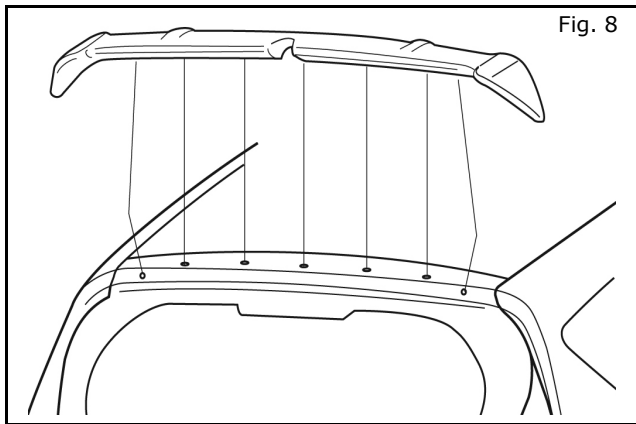

Fig. 8
- d) Carefully place the spoiler on the liftgate. (Fig. 8)